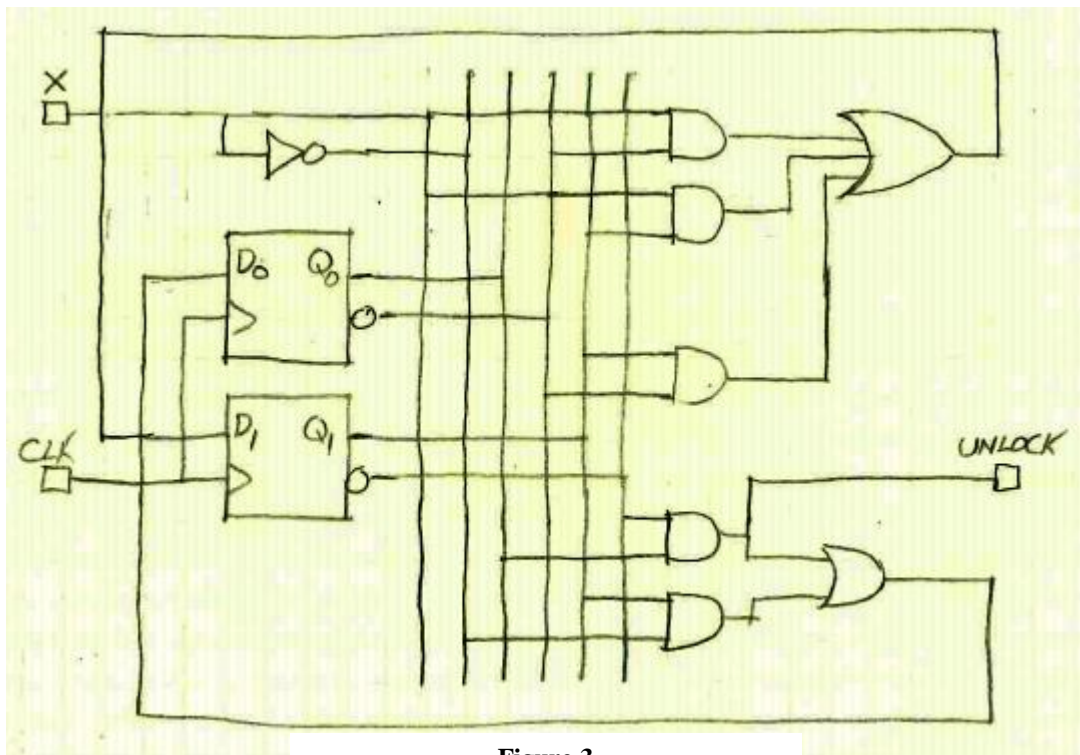

Figure 3
- [2 points] Perform the above analysis for Figure 3.